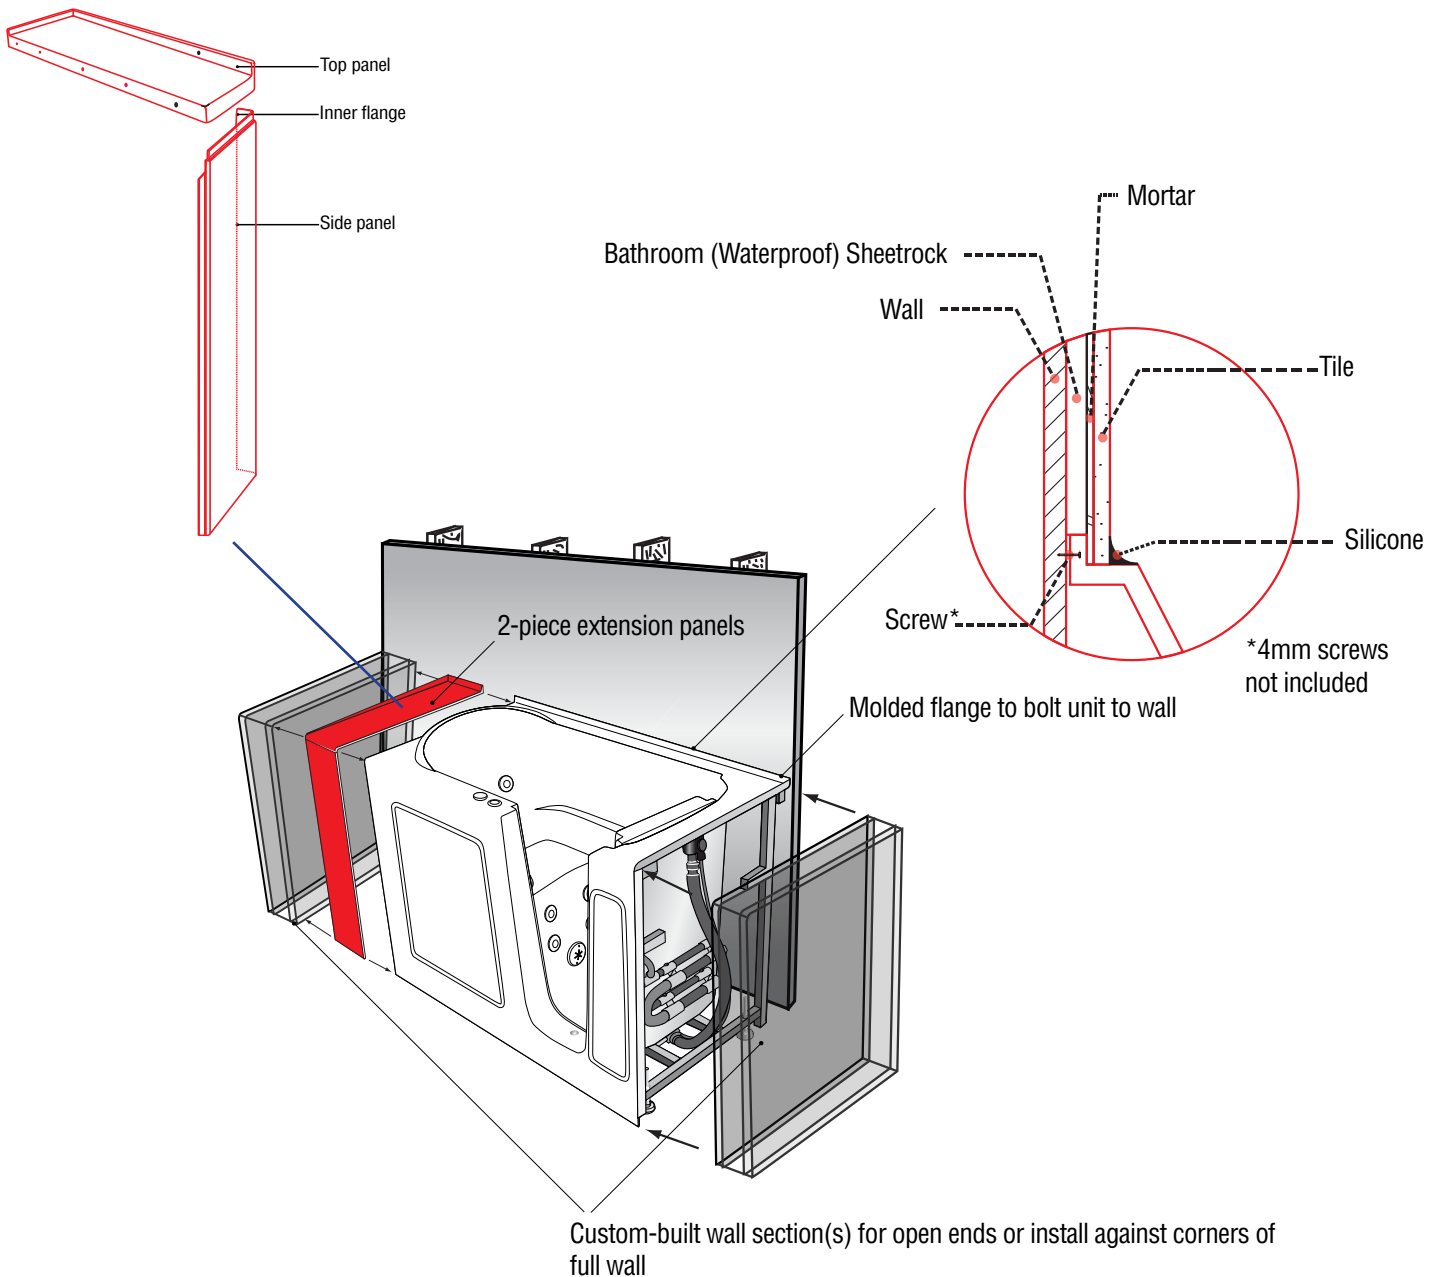

**FIGURE 4**
4. Once the completion of the drain components are installed and have been tested for proper function, the unit can be leveled and give a final water test before installation of unit (Figure 4).